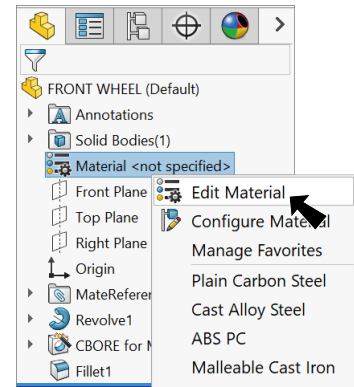

Fig. 14
Step 1. Right click Material in the Feature Manager and click Edit Material, Fig. 14.